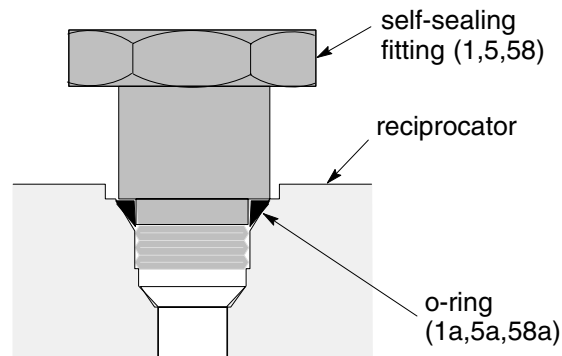

Fig. 4
4. Slowly loosen the hydraulic supply (58) and return (5) fittings to relieve any pressure, and then remove the hoses. Install plugs on the tube fittings and in the hose ends. Check the o-rings (5a, 58a) on the fittings and replace them if they are worn or damaged. See Fig. 4 and the Parts Drawing.
5. Using a strap wrench on the displacement cylinder (108), screw it out of the pump adapter (43), and slide it down as far as it will go.
6. Pull the connecting rod (35) down as far as it will go. Remove the cotter pin (204).
2. Loosen both nuts on the fluid tube (45). Use a wrench to rotate the tube fittings (1,58) to the side, and then remove the tube (45). Check the o-rings (1a,58a) on the fittings and replace them if they are worn or damaged. Install plugs in the fittings to prevent contamination. See Fig. 4 and the Parts Drawing.